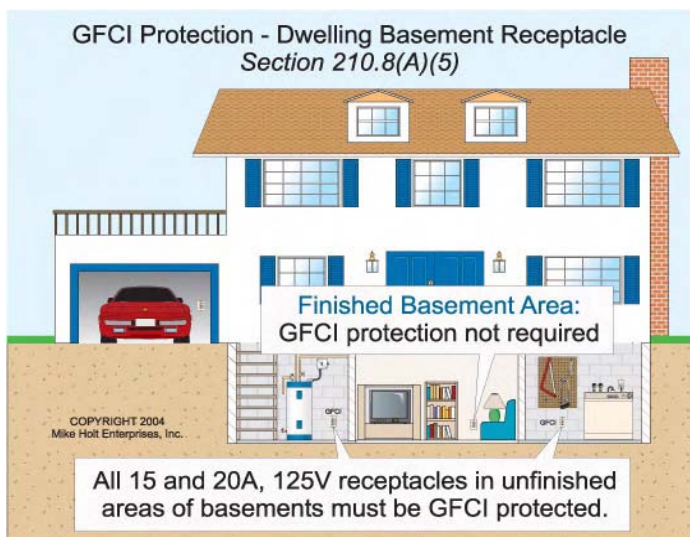

Figure 210-19
(5) Unfinished Basement. GFCI protection is required for all 15 and 20A, 125V receptacles located in the unfinished portion of a basement not intended as a habitable room and limited to storage and work areas. **Figure 210-19**